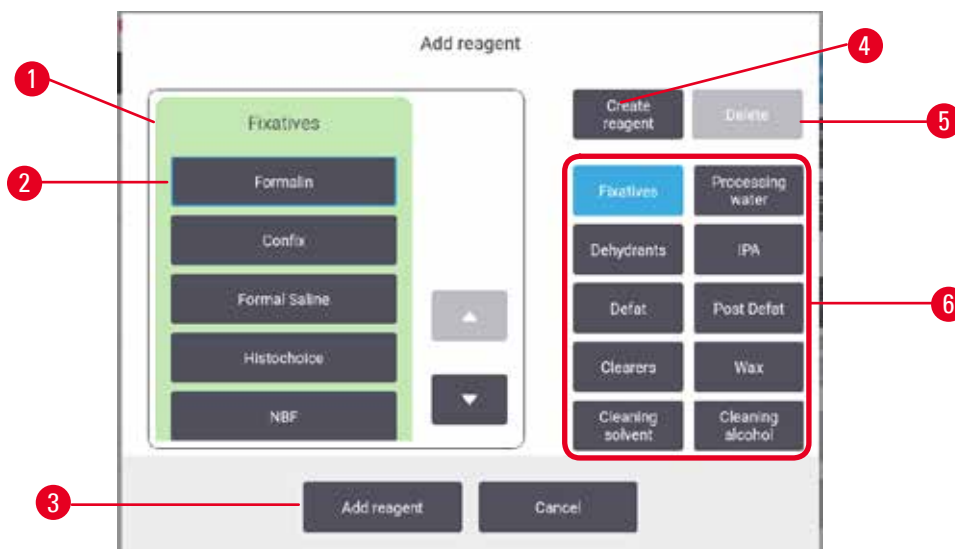

Fig. 69
1. Tap **Add reagent**. A dialog box (→ Fig. 69) listing all reagent types, ordered by the reagent group, appears.
- A. Tap **Add reagent**. A dialog box listing all reagent types, ordered by the reagent group, appears (→ Fig. 69).